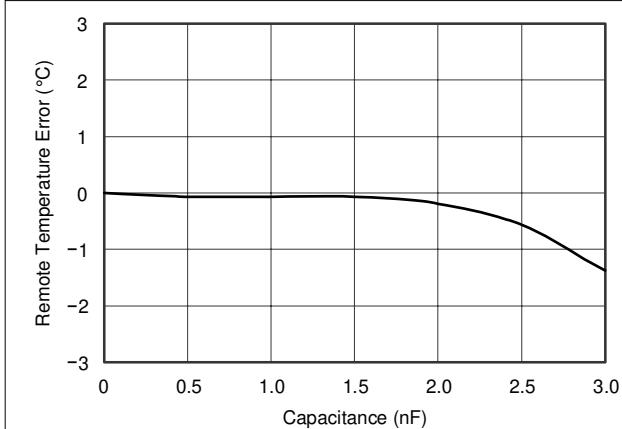
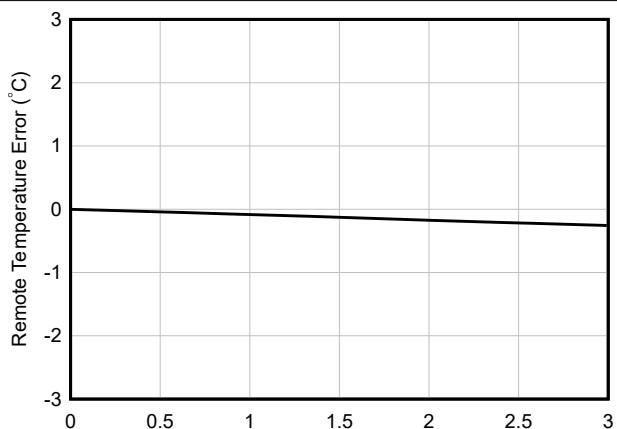
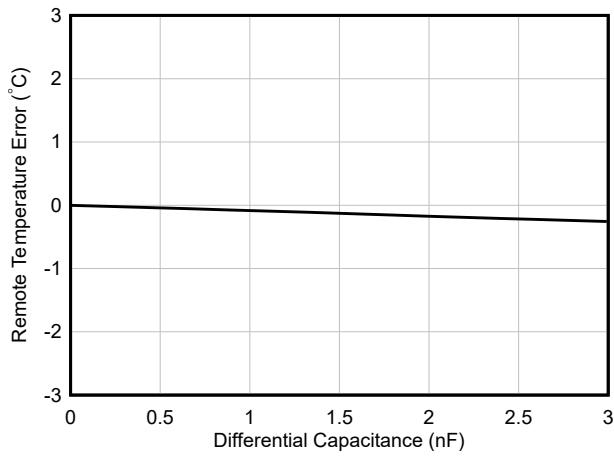

Figure 6-12. Remote Temperature Error vs Differential Capacitance (Legacy Chip)
Figure 6-13. Remote Temperature Error vs Differential Capacitance (New Chip)
Figure 6-27. Remote Temperature Error vs Differential Capacitance
- C. C_{DIFF} (optional) must be $< 1000\text{pF}$ in most applications. Selection of C_{DIFF} depends on specific application; see the Filtering section and Figure 6-12 (Figure 6-13 for new chip) and Figure 6-27.
The TMP411/TMP411D tolerates differential input capacitance of up to 1000pF with minimal change in temperature error. The effect of capacitance on sensed remote temperature error is shown in Figure 6-12 (Figure 6-13 for new chip) and Figure 6-27.